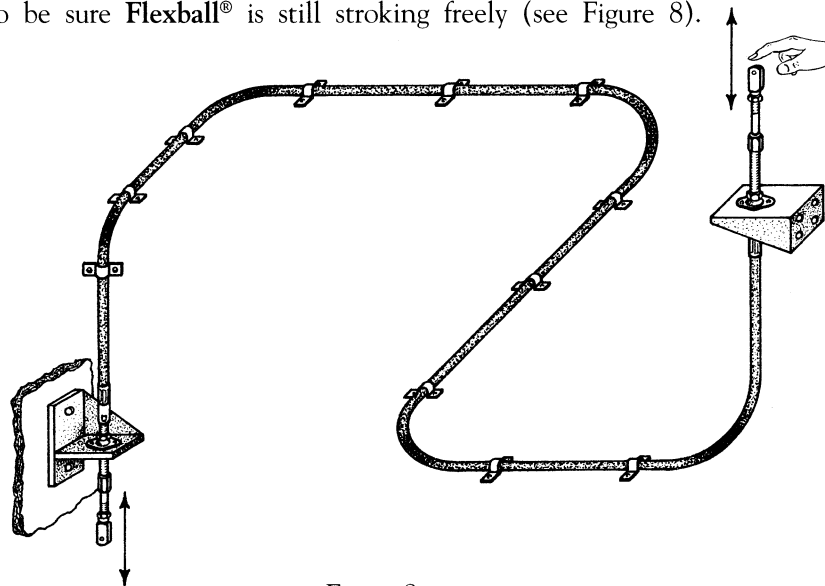

Figure 8
Depending on their length **Flexball**® control cables are wrapped for shipment in either a "figure 8" or "U" shape. If they are not going to be installed immediately after receipt they should be left in their boxes until they are needed.
1. Lift the control cable from its box, hold it upright in both hands and cut the plastic cable tie at the center of the "figure 8." Be sure to keep a firm grasp on all the sections of the cable that intersect at the center of the "figure 8."
Once again check to be sure **Flexball®** is still stroking freely (see Figure 8).